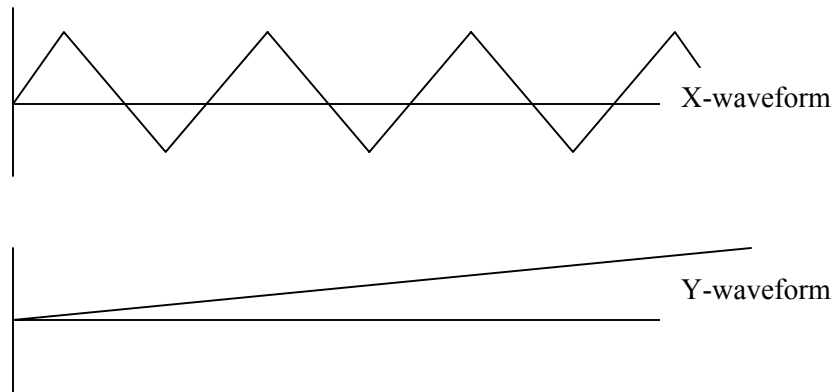

Fig. 2.2 Voltage waveforms applied to the piezo scanner
- If the piezoelectric materials were to be perfect, the following waveform (Fig. 2.2) would produce the above mentioned raster process.